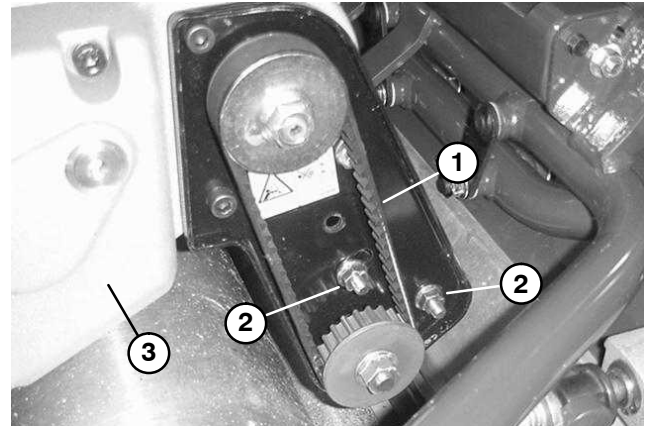
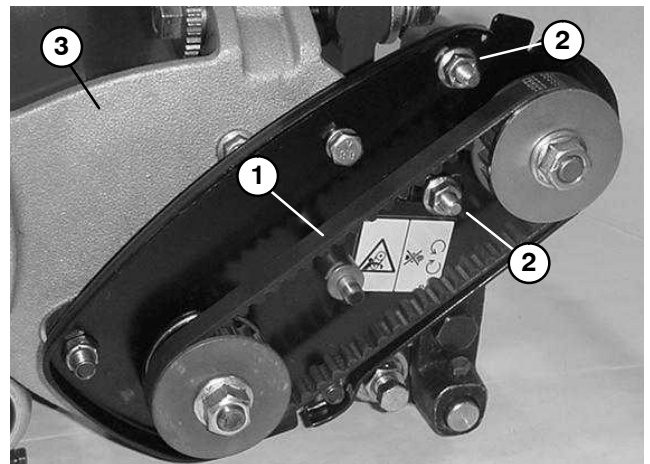

Figure 14
Figure 15
## Reel Drive and Transmission Coupler Belt Replacement (Fig. 14 and 15)
2. Remove belt cover to expose appropriate drive belt: right side (Fig. 14) or left side (Fig. 15).